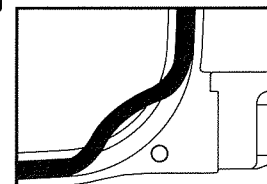

Fig.11
- When installing the O-ring, make certain that the O-ring is properly seated in the O-ring groove (Fig. 11).